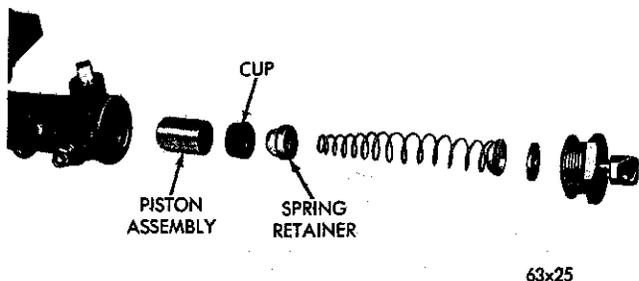

Fig. 43—Slave Cylinder (Disassembled)
(6) Using a  $1\frac{3}{16}$ " socket unscrew the end cap from the front end of the slave cylinder housing. Remove and discard the copper washer that serves as a seal between the end cap nut and the slave cylinder housing. Remove and discard the rubber washer inside the end cap. This washer serves as a seat for the residual check valve. Remove the piston return spring and residual check valve from the slave cylinder bore and discard the check valve (Fig. 43).